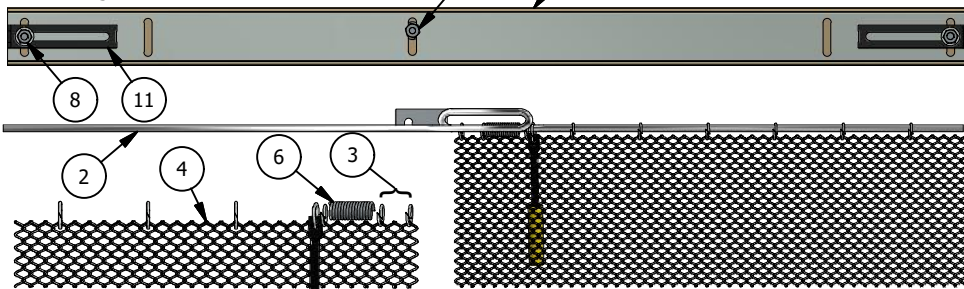

Figure 3
2. Remove the Backrod (2) from the Hanger Assembly (1) by loosening the center hex nut (5) and the end hex nuts (8). See Fig. 3.